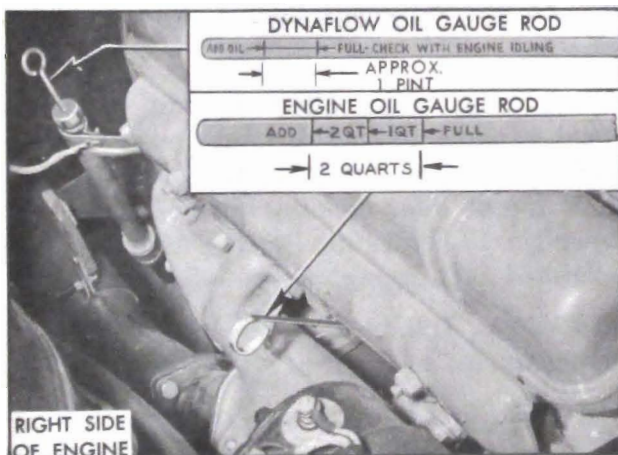

Figure 1-3—Engine and Dynaflo Oil Gauge Rods
The oil level should be maintained between the "FULL" and "ADD" marks on gauge rod; the space between marks represents 2 quarts. It is best to maintain the oil level within one quart of the "FULL" mark. Do not fill above the "FULL" mark. See figure 1-3.
7. **Dynaflo Transmission.** Check transmission oil level, *with transmission oil warm, transmission in Parking, and engine idling.* Remove gauge rod located under right side of hood (fig. 1-3), wipe dry with clean cloth then reinstall to full depth. Remove rod and note oil level.